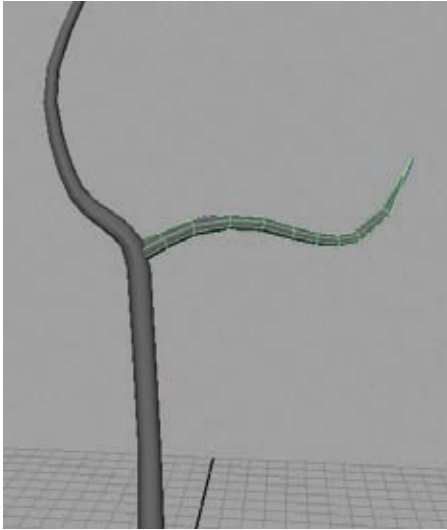

Figure 2.22
16. If any additional edge loops are needed to improve the branch's curvature, you can add them now as well. Eventually, you should get something like Figure 2.22.